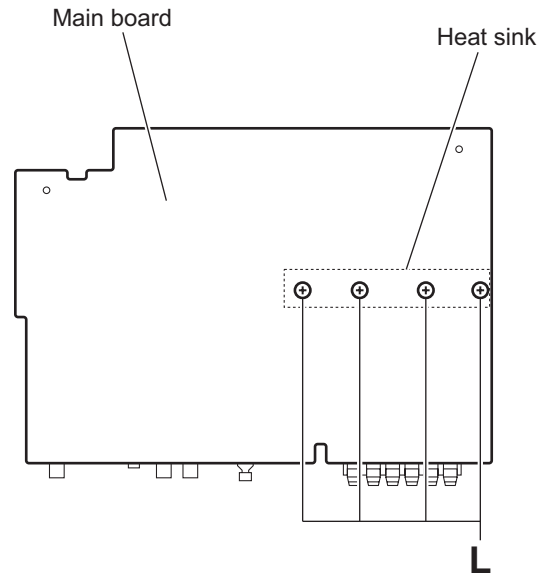

Fig.14
3.1.9 Removing the heat sink (See Fig.14)